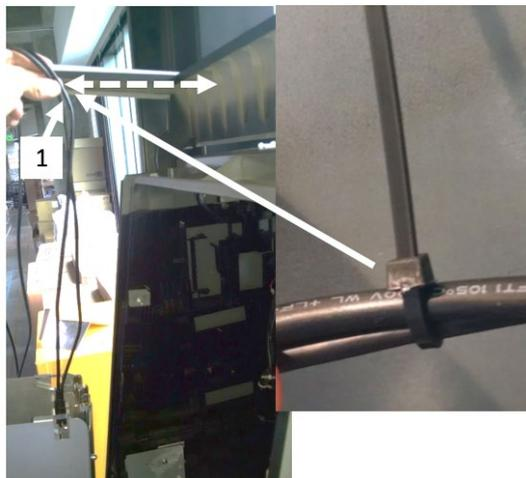

Figure 214
24) Secure both printer cables together at the approximate height [1] of the dotted line) with one of the supplied cable ties (006-8616073). See Figure 214 below.